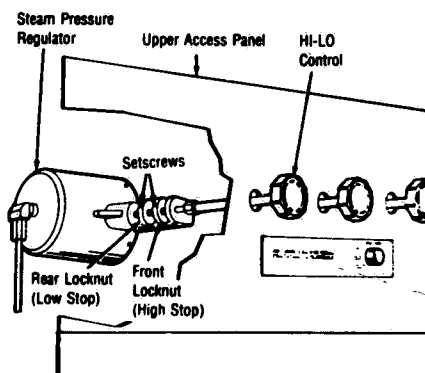

Figure 5-7. ADJUSTING PRESSURE REGULATOR.
3. Adjust steam pressure regulator to control jacket pressure at 20 psig. After adjustment is made, lock low stop. See Figure 5-7.